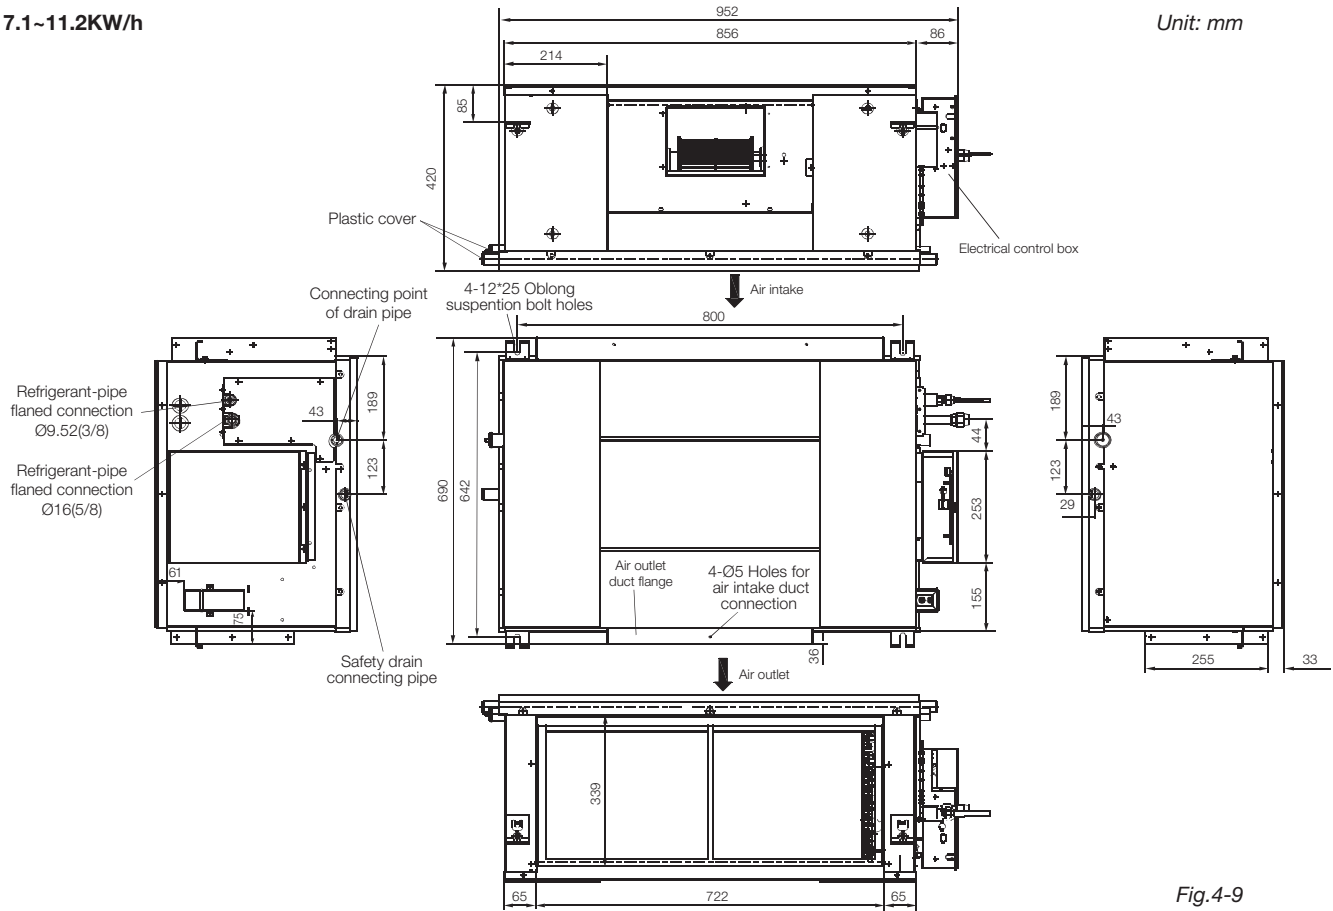

Fig.4-9
- 1) Routine method of installation: the size of installation for indoor unit following Fig.4-9.